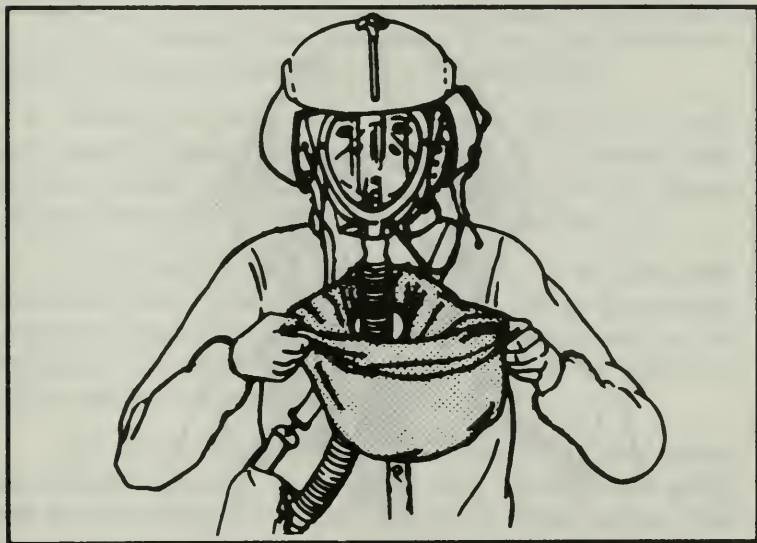

Figure 260. Put on M7 Hood.
(1) Turn up the collar. Turn your shirt or jacket collar up around your neck.
(2) Put on the hood. Grasp the lower portion of the hood with both hands and roll the hood inward a few turns. Pull the hood over the helmet/head and unroll the hood while pushing it down to cover your neck and shoulders (Figure 260).